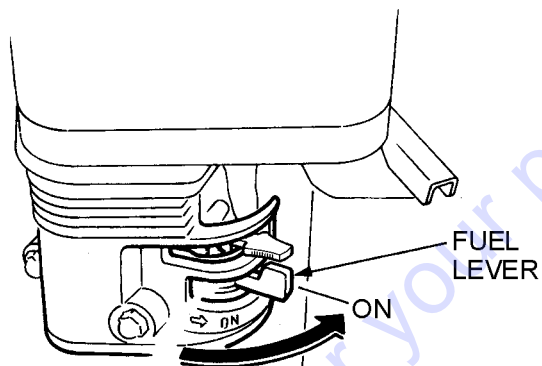

Figure 37. Engine Fuel Valve Lever (ON)
2. Place the engine fuel valve lever (Figure 37) in the "ON" position.